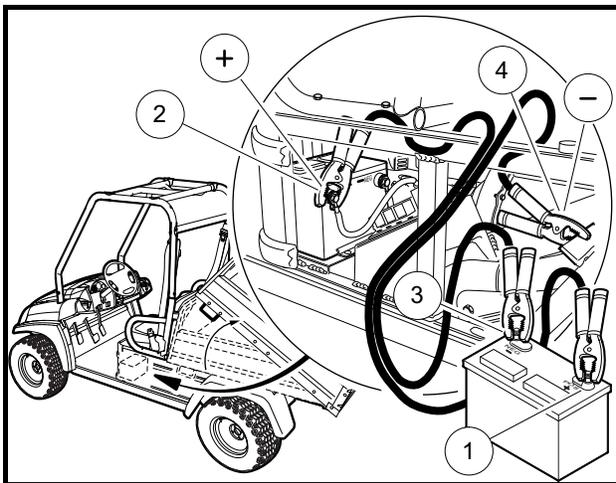

Figure 3-11 Jump Starting
4. Locate the vehicle battery on the driver side of the vehicle under the cargo bed (**Figure 3-11, Page 3-7**).
5. Connect the end of the first cable (1) to the positive (+) terminal of the booster battery. Connect the other end of the same cable (2) to the positive terminal of the vehicle battery. **See DANGER “Battery – Explosive gases!...” in General Warning, Section 1, Page 1-2.**
6. Connect the end of the second cable (3) to the negative (–) terminal of the booster battery. Connect the other end of the same cable (4) to the battery frame ground.
8. After the engine has started, remove the frame ground (–) cable (4) first. Remove the cable from the positive terminal (2). Then remove the cables from the booster battery. **See following CAUTION.**